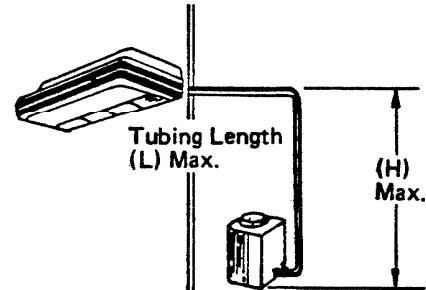

Fig. 1
- If the tube length will exceed more than 50ft, additional refrigerant charge is necessary. (Refer to the below table and Fig. 1)